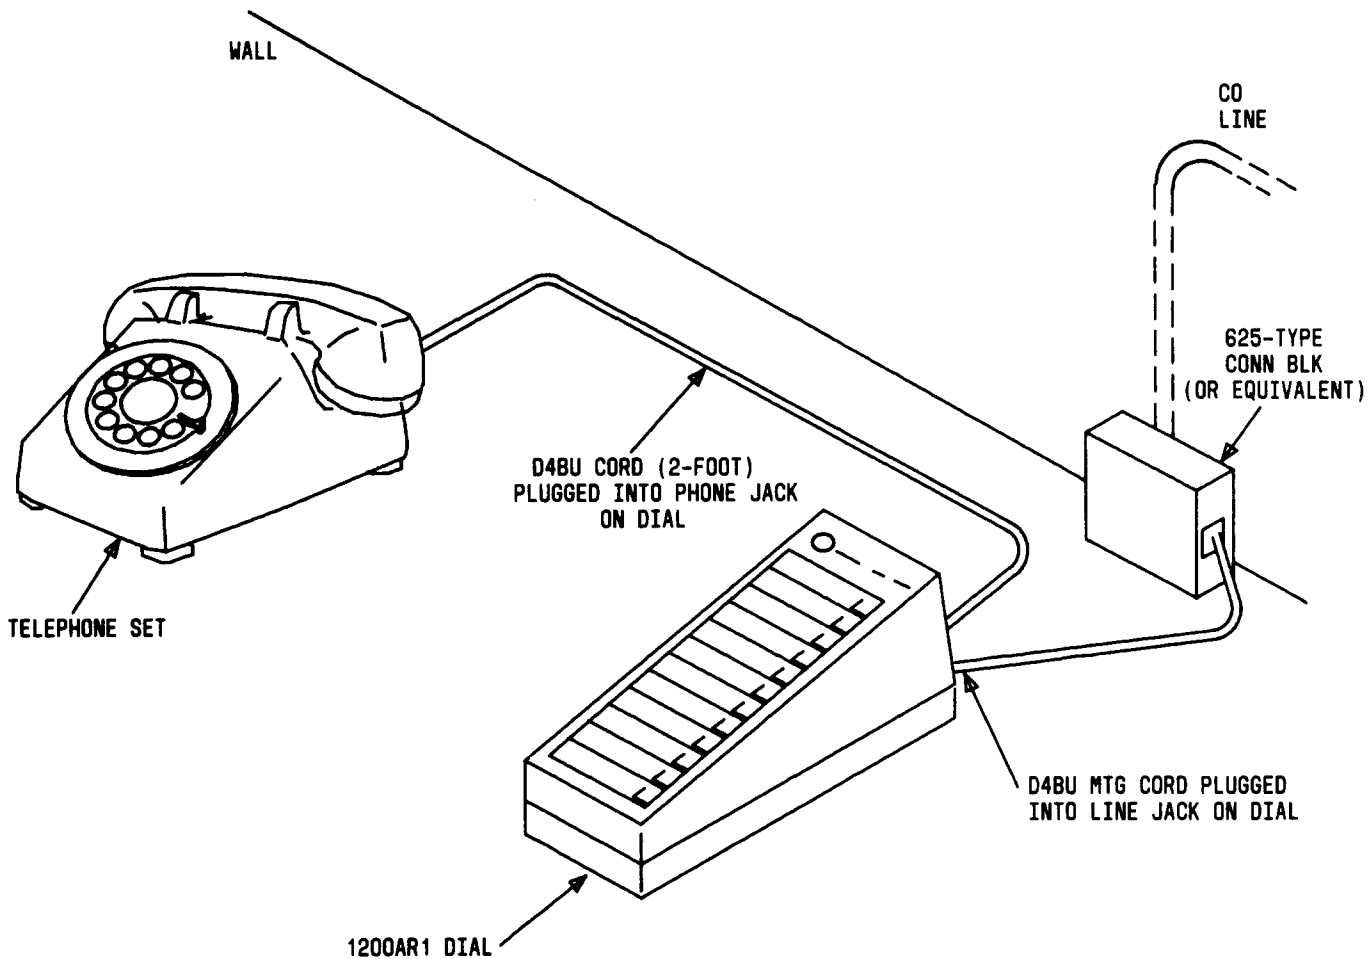

Fig. 4—Recommended Installation Using 1200AR1 Dial
cover of the dialer and other end into connecting block from central office (CO). Plug one end of the 2-foot D4BU telephone set mounting cord (furnished with the dial) into the PHONE jack on dialer and plug other end of the cord into the telephone set mounting cord jack (Fig. 4 or 5).